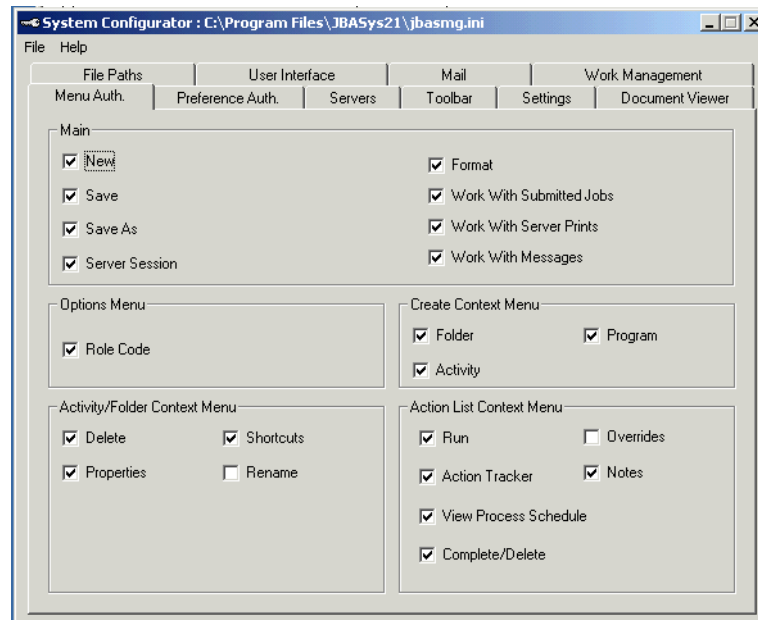

Figure 47. System 21 Explorer Configuration Tool - Menu Authorization
1. Launch the System Configuration tool from the Windows Start menu by clicking **Start->Programs->JBA System21->System Configuration Tool**. The dialog is shown in Figure 47 appears.